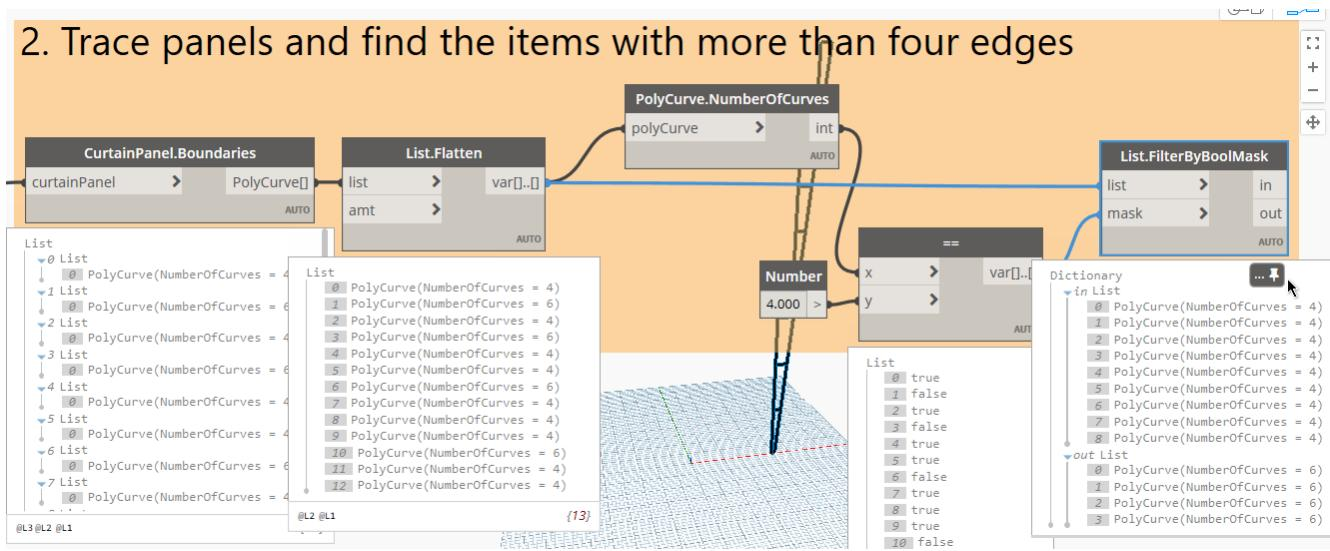

Figure 98
26. Feed the output of the **Flatten** node (Our list of PolyCurves) into the list input (see Figure 98).